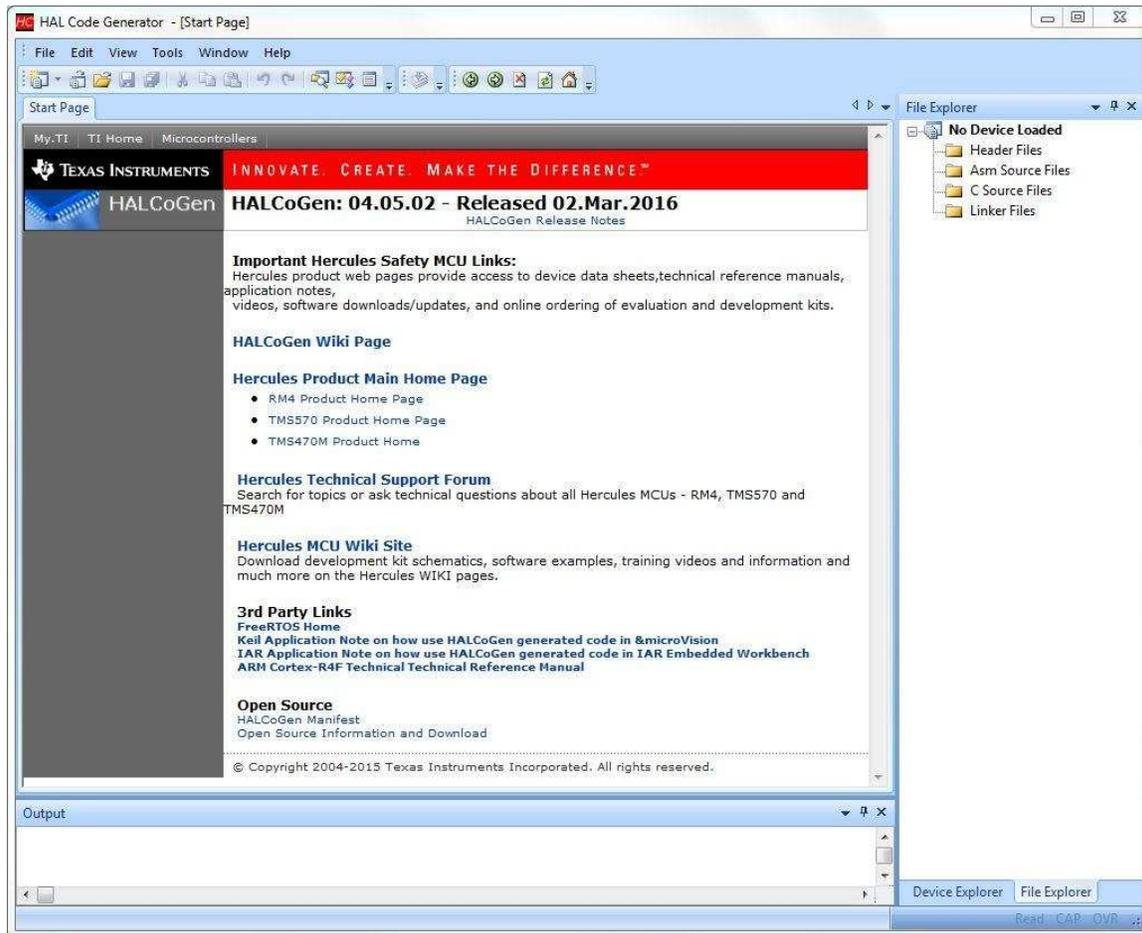

Figure 2. HALCoGen Startup With No Project
1. Start the HALCoGen program, which will bring up a startup screen as illustrated in Figure 2.